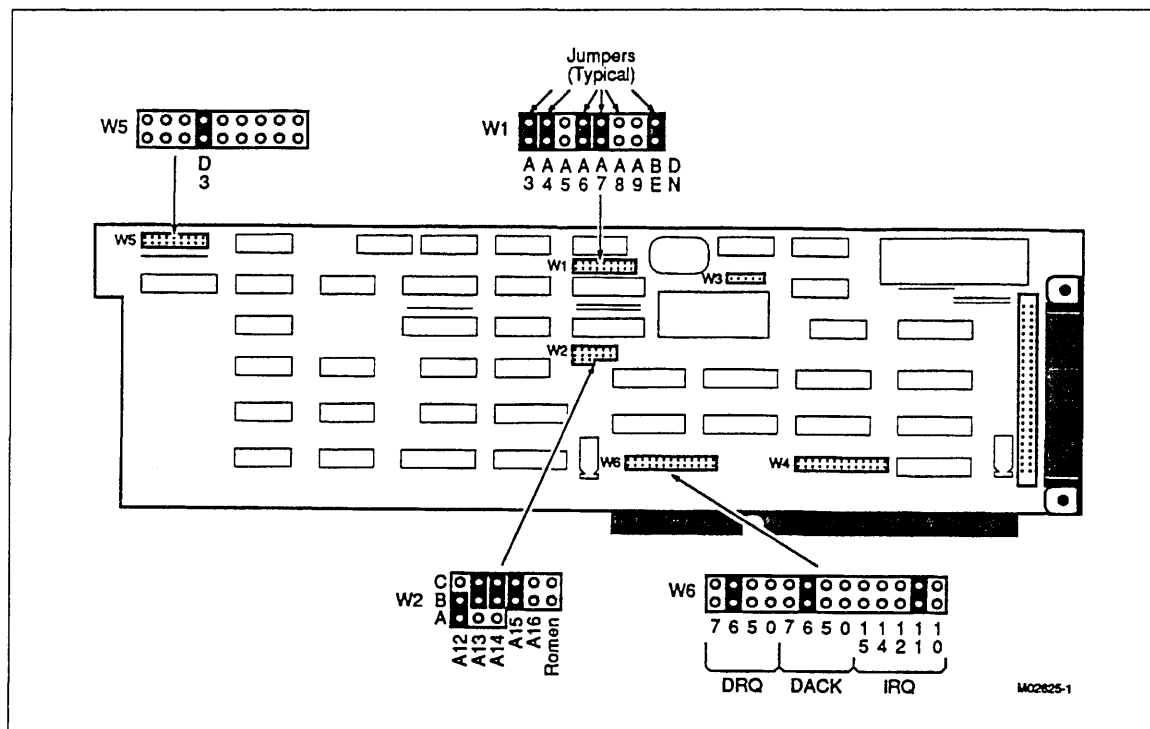

Figure 7-14. Jumper Strap Locations on SE SCSI Board
- ___ 6. Set the jumpers on the new SE SCSI board to the same settings as those on the card removed. These settings are as follows (see also figure 7-14).